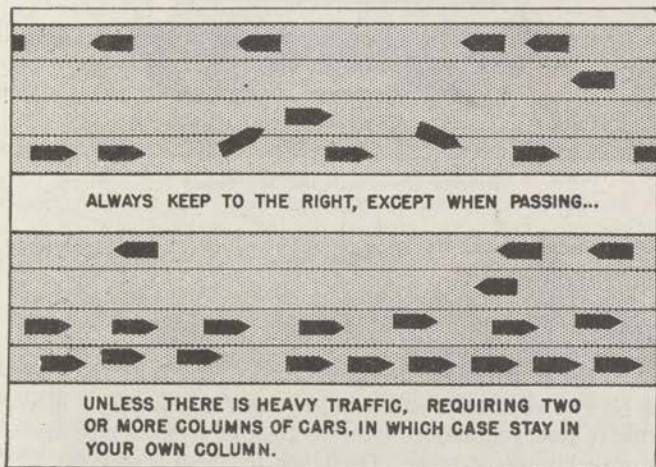

FIGURE 17.—Keep to the right.
b. When there is an almost continuous column of cars parked in the right lane (in which case you must, of course, run to their left). (See fig. 17.)